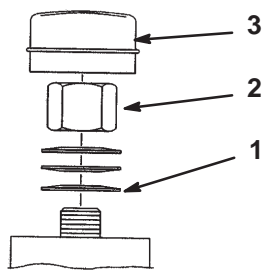

Figure 56
2. Remove the dust cap from the caster and tighten the locknut (Fig. 56).
3. Tighten until the spring washers are flat and then back off 1/4 turn to properly set the preload on the bearings (Fig. 56).
Important Make sure that the spring washers are installed correctly as shown in Figure 56.